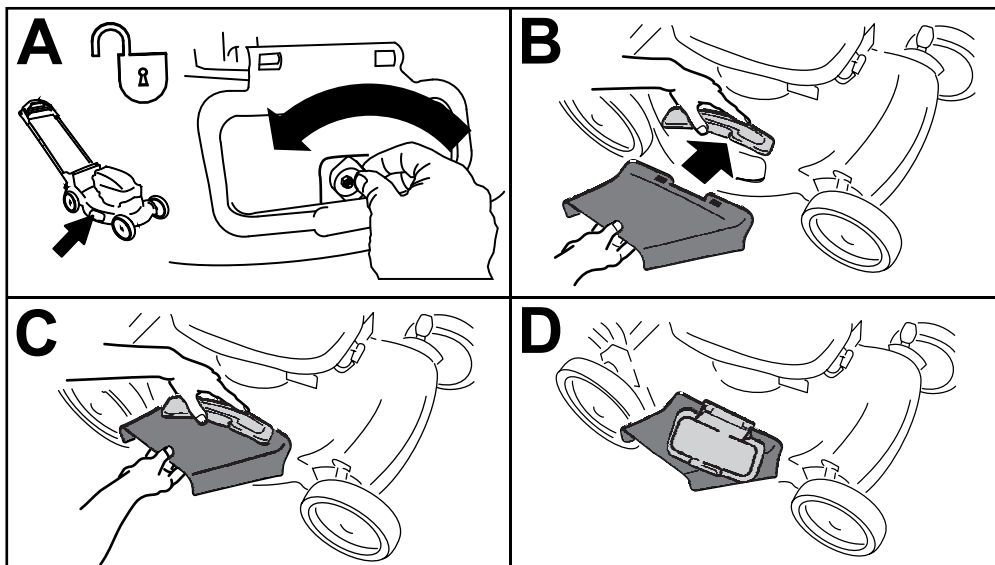

Figure 25
1. Unlock the side-discharge deflector (A of Figure 25).
2. Lift open the side-discharge deflector (B of Figure 25).
3. Install the side-discharge chute and close the deflector onto the chute (B, C, and D of Figure 25).